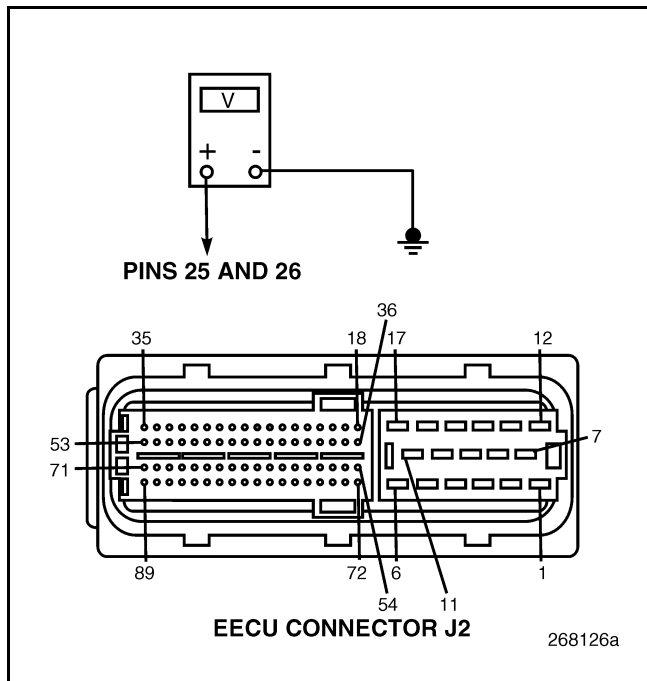

Figure 835
4. Measure the voltage between EECU connector J2, pins 25 and 26 and a good ground (see Figure 835).